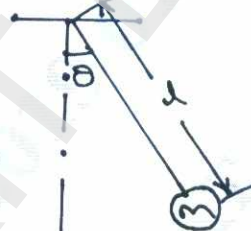

Fig.Q2(b)
- b. Determine the natural frequency of a simple pendulum shown in Fig.Q2(b).